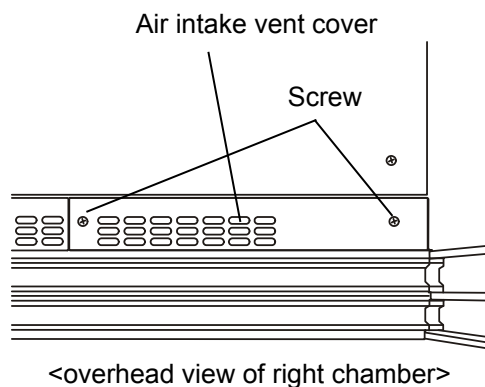

Fig. 3
5. Unscrew 2 screws on the air intake vent cover (right side) on the front bottom and then remove the air intake vent cover. [Fig. 3]